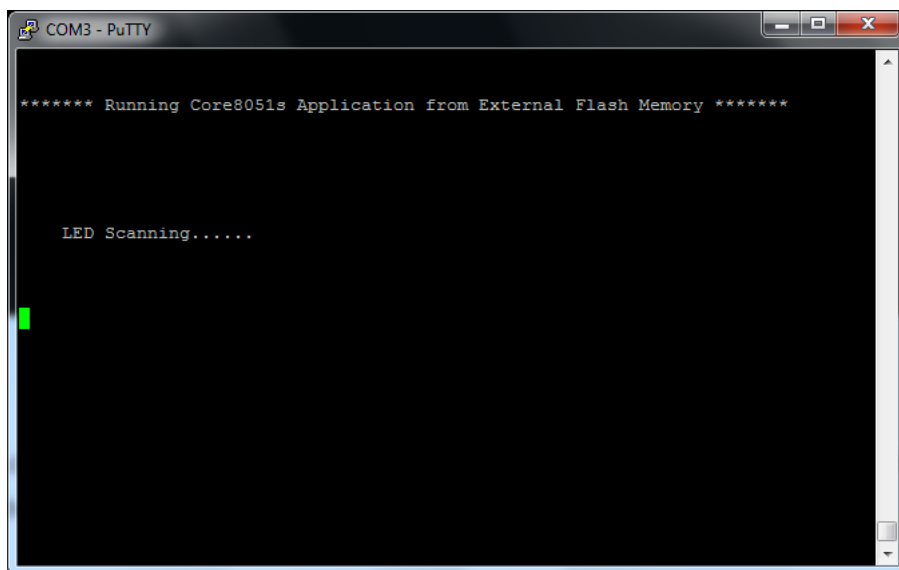

Figure 24 • Step Over
16. Choose **Step Over** from the **Run** menu. While stepping over the code, the LEDs blink on the Microsemi Cortex-M1-enabled ProASIC3L Development Kit. The message is displayed as shown in Figure 24.